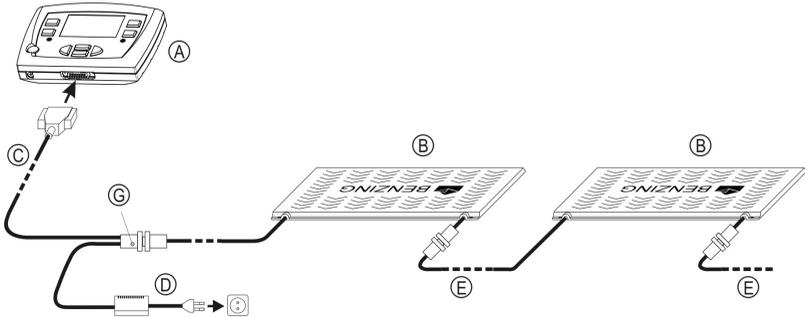

Figure 3.2 – Fancier system BENZING M1 with PLB Antennas
- After having plugged in the power supply unit the green LED display "Power supply ON" on the plug of the M1 Fancier Cable must light up (see (G) in figure 3.2 and 3.3). This indicates that the power supply is correctly provided.
- Before plugging in the power supply unit please check, if the installation corresponds to the figures 3.2 or 3.3 respectively. Make sure that before connecting the BENZING M1 to the mains humidity has not found its way into the case of the BENZING M1 and that the device is being operated according to the conditions of use mentioned in section 3.1.